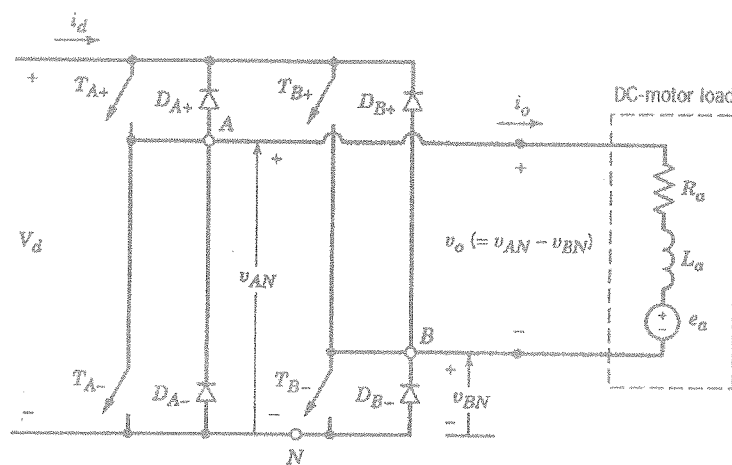

Figure Q3 DC-DC full-bridge converter connected with a DC motor
Q3 a) Consider the full-bridge DC-DC converter given in Figure Q3.
- ii) If the converter shown in Figure Q3 uses the PWM with bi-polar voltage switching, sketch the waveforms of v_{AN} , v_{BN} , v_O and i_O for three half cycles of the triangular signal, used in the PWM generator, indicating which devices are conducting.
- b) The armature of a 4.0 hP, 1800 rpm separately excited DC motor is supplied by a full bridge DC-DC converter as illustrated in Figure Q3. The armature inductance and the voltage constant of the DC motor are 1.5 mH and 0.15 V/rpm, respectively. The armature resistance is negligible. The DC motor runs its rated load. The input DC voltage to the converter is 320 V. The converter uses the PWM with bi-polar voltage switching with the switching frequency (f_s) of 50 kHz.